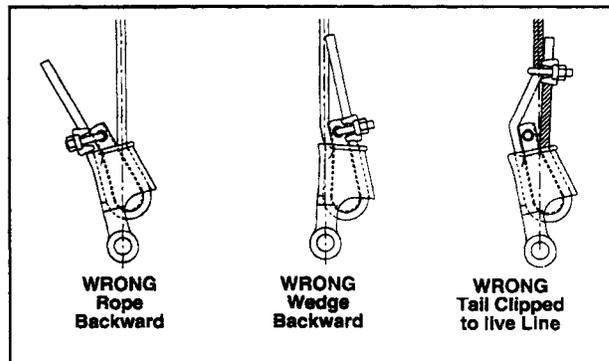

Figure 2
Always use an open wedge socket and the correct type of adapter link when securing the dead end of the load line to the boom tip. Figure 1 (right) and Figure 2 (following page) show exploded-view illustrations of both types of adapter links. With these links in place, free movement of the dead end line is possible through two axes of rotation. The pin connection parallel to the boom center line allows lateral stresses to be disseminated safely, while the adapter link pin connection perpendicular to the boom distributes longitudinal stresses. The freedom of movement provided by the wedge socket and adapter link protects the dead end connection from abuse and fatigue much more effectively than a thimble and clips, or other methods.
- Do not attach dead end to live end or install wedge backwards. (See Figure 2)